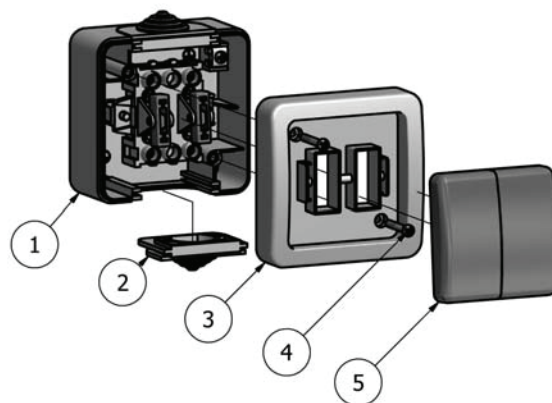

Fig. 2. The disassembled switch
2. Disassemble sockets and switches before connection, for this purpose unscrew 2 screws (pos. 4) on the front covers (pos. 3) and extract sealing bushes (pos. 2) from that side of the case (pos. 5), where you plan to build up a unit, as shown in Fig. 2 and 3.